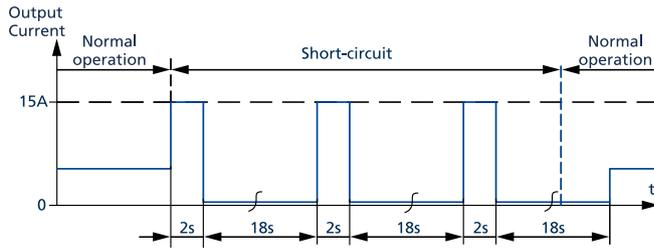

Fig. 6-3: Short-circuit on output, HiccupPLUS mode, typ.
2) At heavy overloads (when output voltage falls below 13 V), the power supply delivers continuous output current for 2 s. After this, the output is switched off for approx. 18 s before a new start attempt is automatically performed. This cycle is repeated as long as the overload exists. If the overload has been cleared, the device will operate normally. See Fig. 6-3.